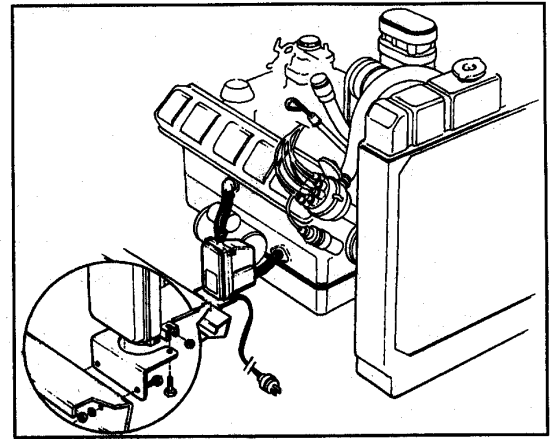

Figure 2 - Typical Installation
1.2 Mounting - See Figures 2 through 6.